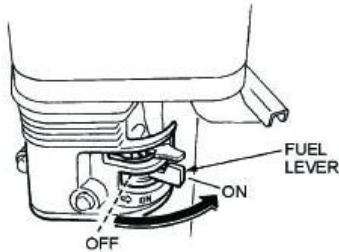

Figure 9. Fuel Valve Lever
1. Place the *fuel valve lever* (Figure 9) in the "ON" position.